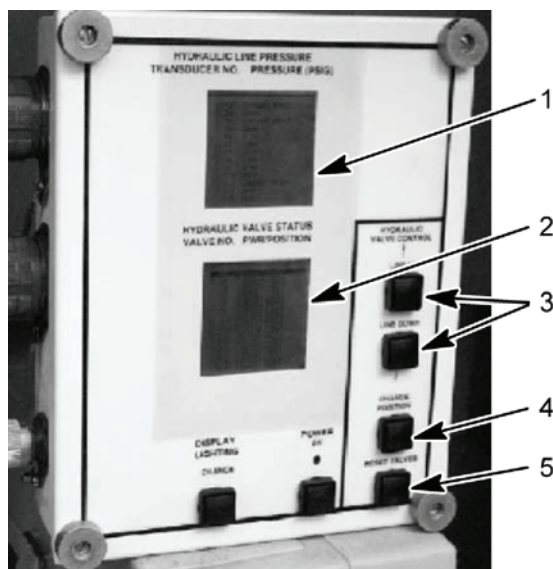
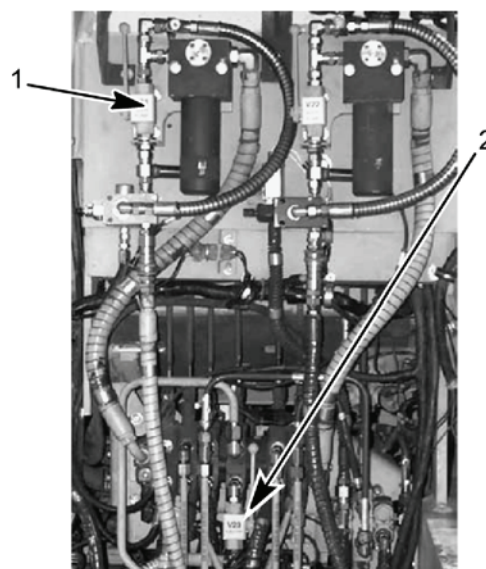

Figure 27. HDC Control Box
Figure 28. DCV Bank
- Disable ejector by manually closing the ejector inhibit ball valve V23 (Figure 28, item 2) on the DCV bank. Using LINE UP or LINE DOWN button (Figure 27, item 3), select V1 on the HDC display (Figure 27, item 2). Close V1 on the HDC display (Figure 27, item 2) by selecting the CHANGE POSITION button (Figure 27, item 4) on the HDC control box.
- Ensure right main hydraulic pressure inhibit valve V21 (Figure 28, item 1) is fully opened.
- Have assistant start engine and allow engine to idle (750–800 rpm). Slowly close right main hydraulic pressure inhibit valve V21 (Figure 28, item 1), until transducer T-3 hydraulic pressure on the HDC display (Figure 27, item 1) reaches 3,950–4,050 psi (27,235–27,925 kPa).
- Fully open right main hydraulic pressure inhibit valve V21 (Figure 28, item 1).
- Open ejector inhibit ball valve V23 (Figure 28, item 2) on the DCV bank. Using LINE UP or LINE DOWN button (Figure 27, item 3), select V1 on the HDC display (Figure 27, item 2). Open V1 on the HDC display (Figure 27, item 2) by selecting the CHANGE POSITION button (Figure 27, item 4) on the HDC control box.